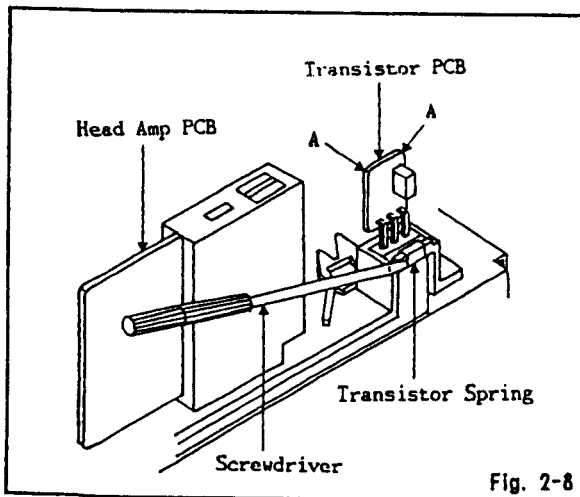

Fig. 2-8
1. Insert a small flat-blade screwdriver into the transistor spring as shown in Fig. 2-8.